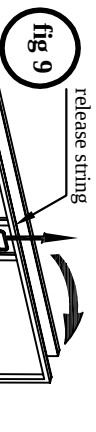

fig 9
STEP 9: Repeat for the other plastic side plate, ensure that the table is on an even surface and is stable. Pull the release string in order to unfold or fold the table top as shown(fig 9 and fig 10). **Do not simultaneously fold or unfold the two pieces of table top to avoid hard collision.**